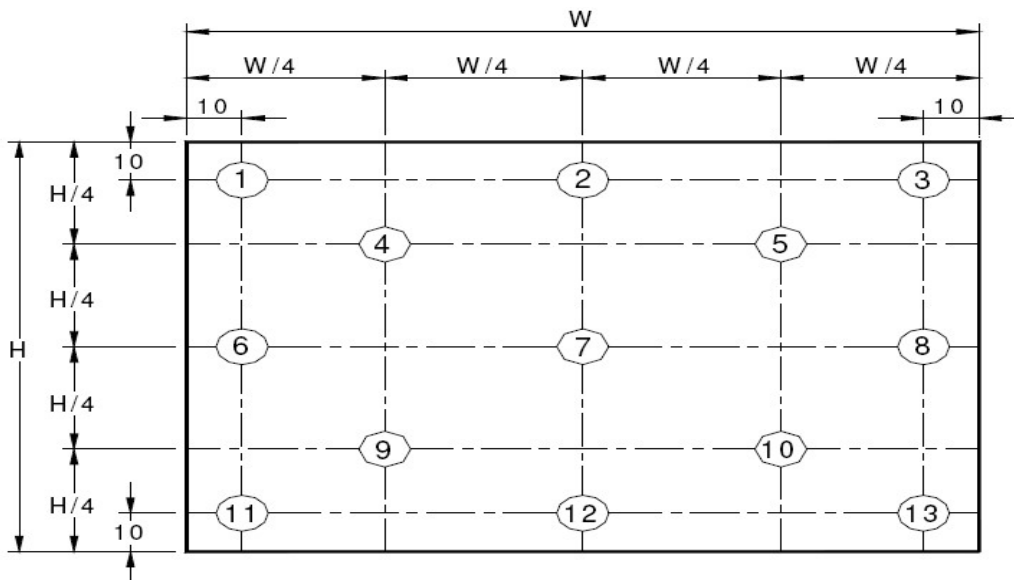

Figure 11. Uniformity Measurement Locations (13 points)
(3) The White luminance uniformity on LCD surface is then expressed as : $\Delta Y = \text{Minimum Luminance of 13 points} / \text{Maximum Luminance of 13 points}$. (see Figure 11).
(4) Definition of Contrast Ratio (CR):
The White luminance uniformity on LCD surface is then expressed as : $\Delta Y_{13} = \text{Minimum Luminance of 13 points} / \text{Maximum Luminance of 13 points}$ (see Figure 11).